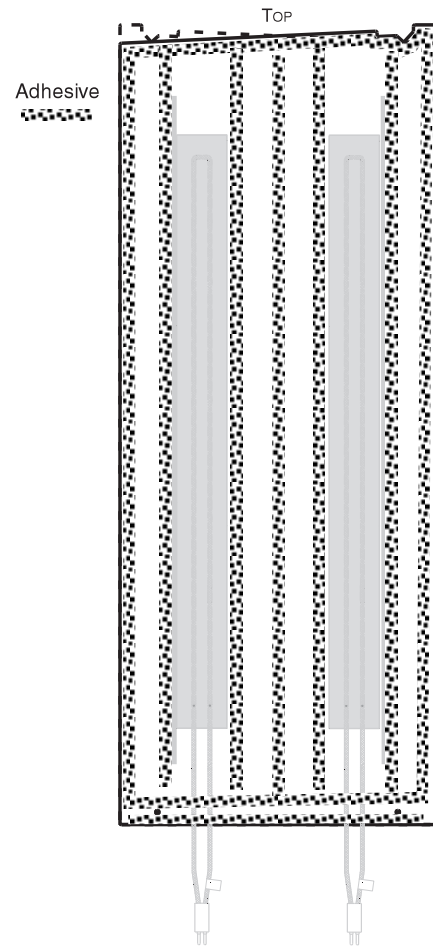

Figure 5 — Apply Adhesive
12. The insert will be held in place with the rolled adhesive. Apply adhesive transfer tape evenly around the perimeter of the insert and between heaters as shown in Figure 5. Do not peel off second protective layer at this time.